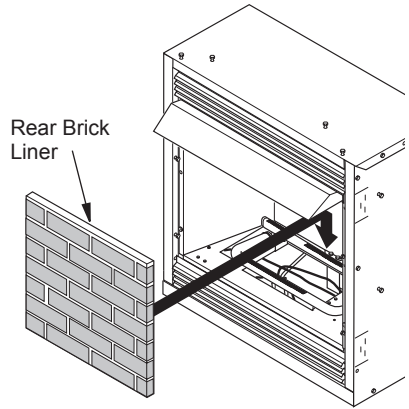

Figure 36 - Installing Rear Brick Liner
2. Place rear brick liner against back of firebox. The left and right brick liners will hold this liner in place (see Figure 36). Be sure to hold the rear brick liner while installing the sides so it will not fall forward.